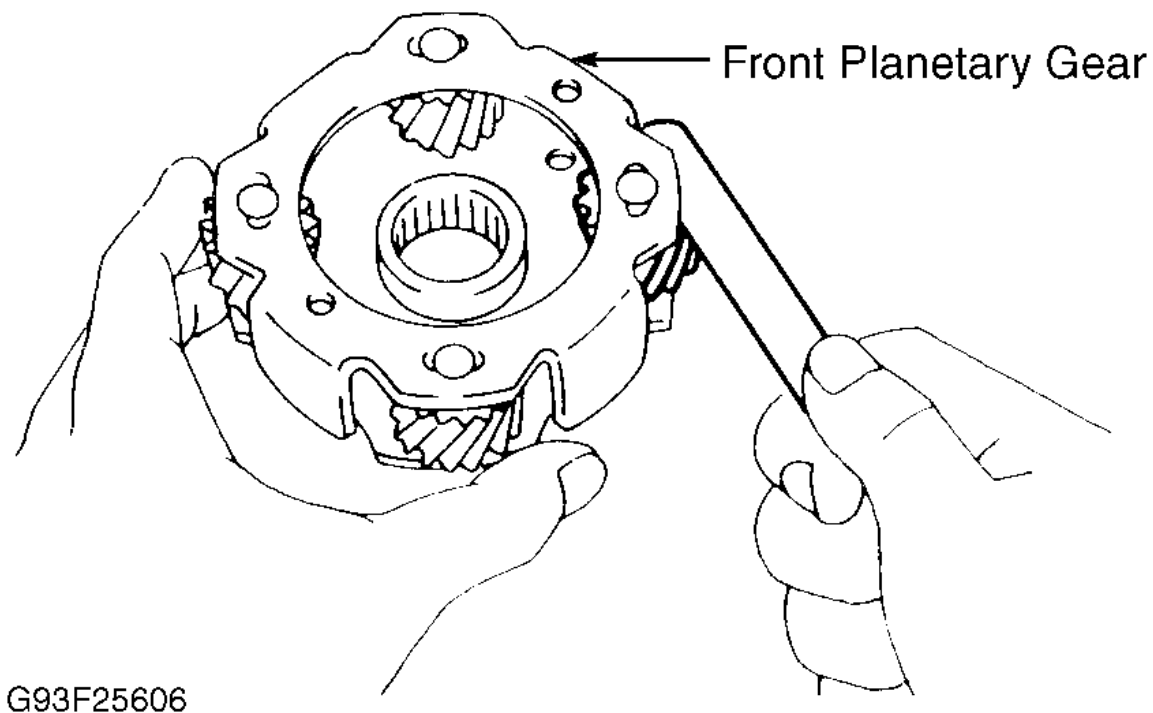

Fig. 39: Measuring Planetary Gear Thrust Clearance
3. Measure planetary pinion gear thrust clearance. Standard clearance should be .008-.020" (.20-.50 mm). Maximum clearance is .020" (.50 mm). If clearance exceeds specification, replace planetary gear. See Fig. 39.
3. Measure planetary pinion gear thrust clearance. Standard clearance should be .008-.020" (.20-.50 mm). See Fig. 39 . If clearance exceeds specification, replace planetary gear assembly.